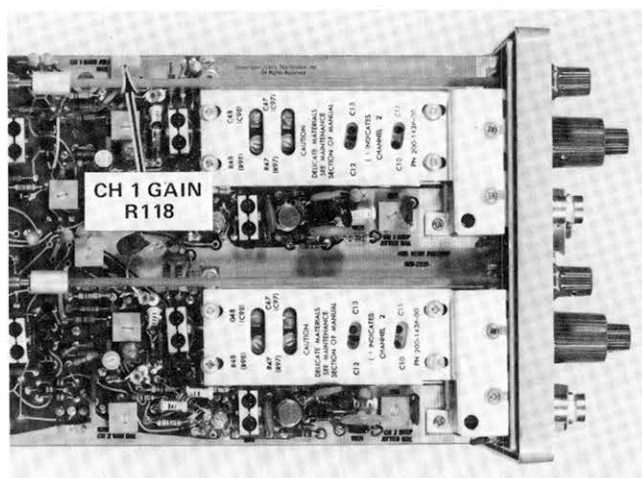

Fig. 5-14. Location of CH 1 Gain adjustment.
g. ADJUST—CH 1 Gain adjustment, R118, (see Fig. 5-14) for 200 mV (peak-to-peak) display on the Test Oscilloscope. (NOTE: This is a nominal value for this adjustment and may vary from instrument to instrument.